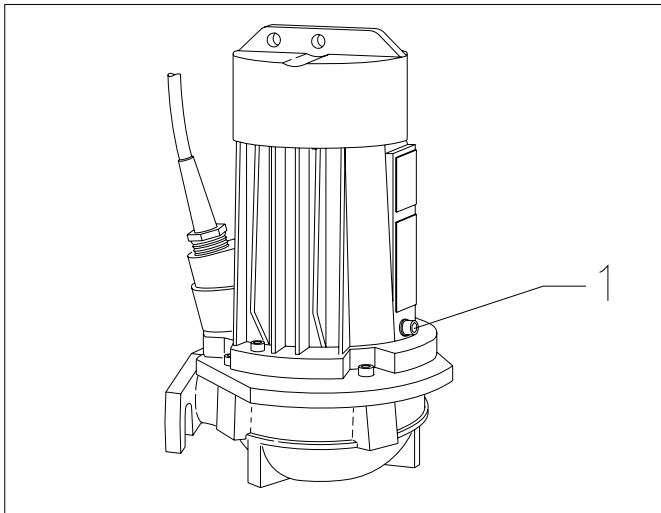

Fig. 7.10
Unscrew the inspection plug of the motorhousing (see Fig. 7.10 pos 1).